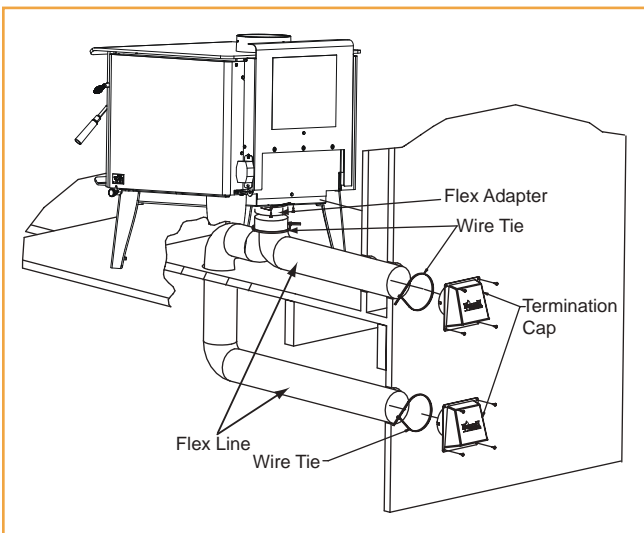

Figure 19.1 - Floor & Rear Installation
2. Using a #2 Phillips screw driver attach the flex adapter to the appliance using 4 screws (**Figure 19.1**).